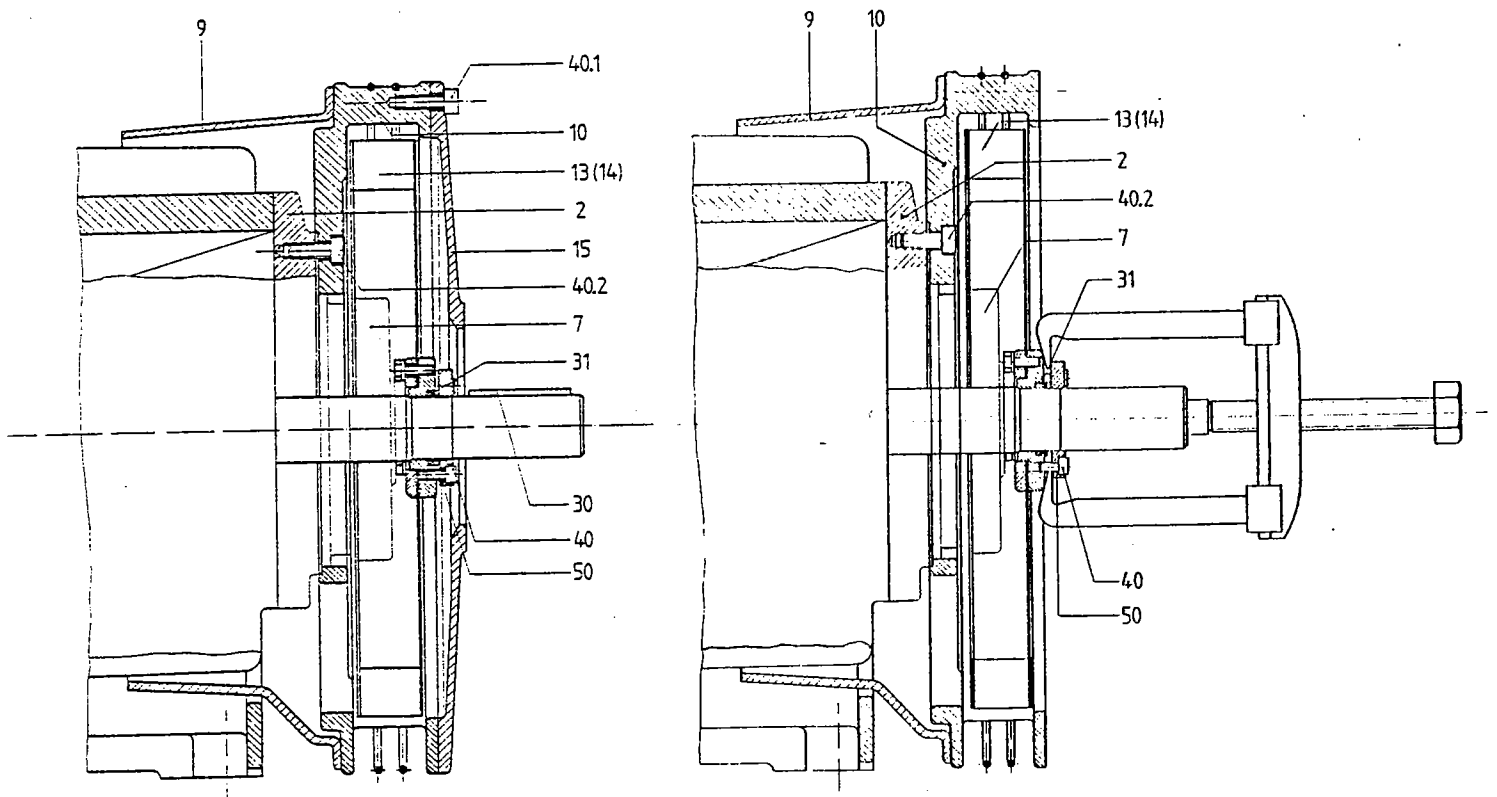

Fig. 13
5.1 Fan and fan cowling (see Fig. 13)
Withdraw the fans by means of the extracting device from the rotor shaft (Fig. 13).